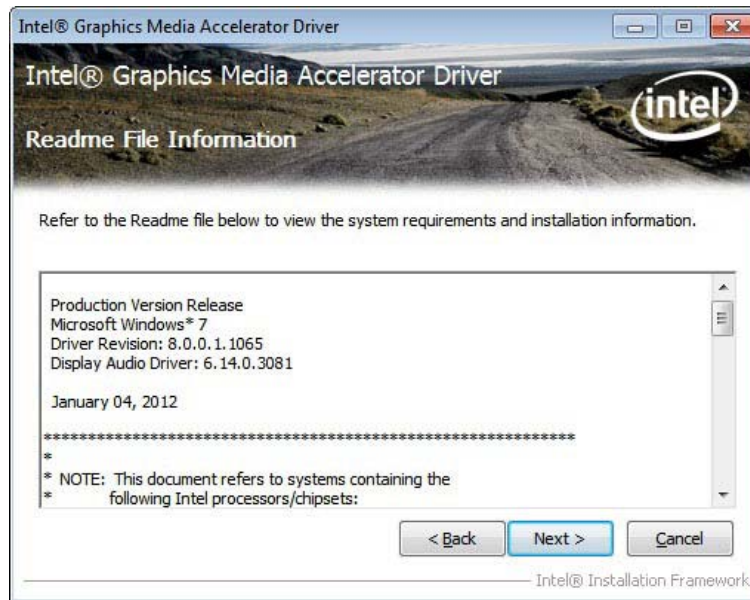

Figure 6-11: Graphics Driver Read Me File
Step 10: The Read Me file in **Figure 6-11** appears.